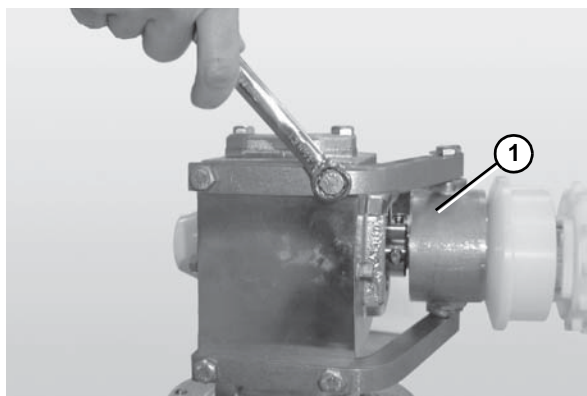

Figure 52
- Unbolt the drive assembly and slide it off the bearing spindle (**Figure 52, item 1**).